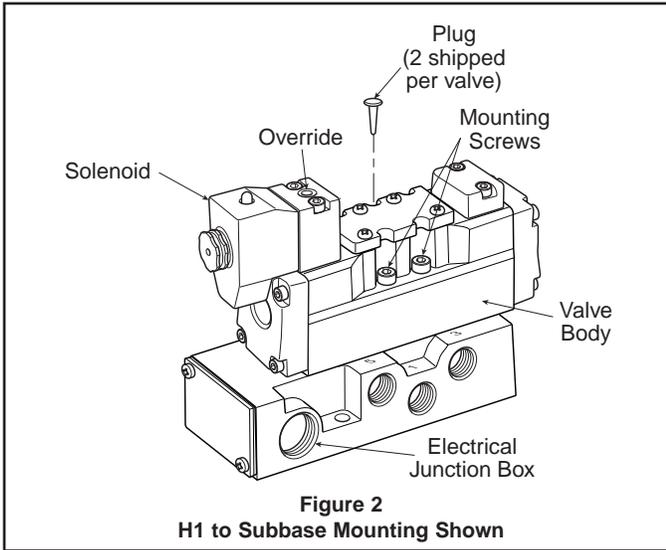

Figure 2
5. For new automotive valves with (5) five mounting holes in the valve body, plugs must be used to prevent foreign material from entering. For H1, H2, & H3 applications, the center hole is to be plugged with (1) one plug (See Figure 2). On applications with the valve mounted on the "F" series base, plug both outside holes.